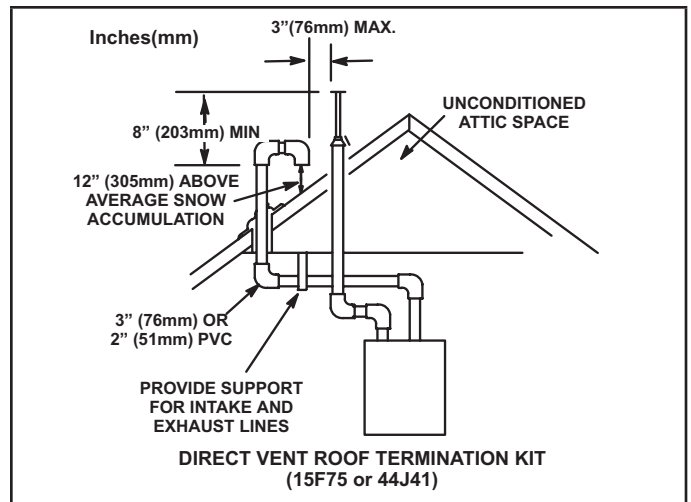

FIGURE 34
Intake and exhaust pipes may be routed either horizontally through an outside wall or vertically through the roof. In attic or closet installations, vertical termination through the roof is preferred. FIGURE 34 through FIGURE 41 shows typical terminations.
- 3 - On roof terminations, the intake piping should terminate straight down using two 90° elbows (See FIGURE 34).